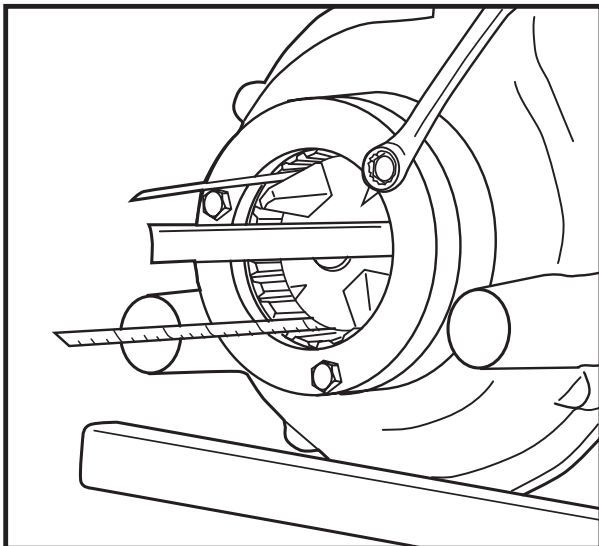

Fig. 7
9. To provide proper alignment use three sections of an old 1/2" tape measure as shims 120 degrees apart and then tighten bolts. Be sure to pull screws down evenly applying pressure on all three screws. **DO NOT TIGHTEN ONE SCREW CLEAR DOWN BEFORE ADJUSTING OTHER SCREWS.** See Figure 7.